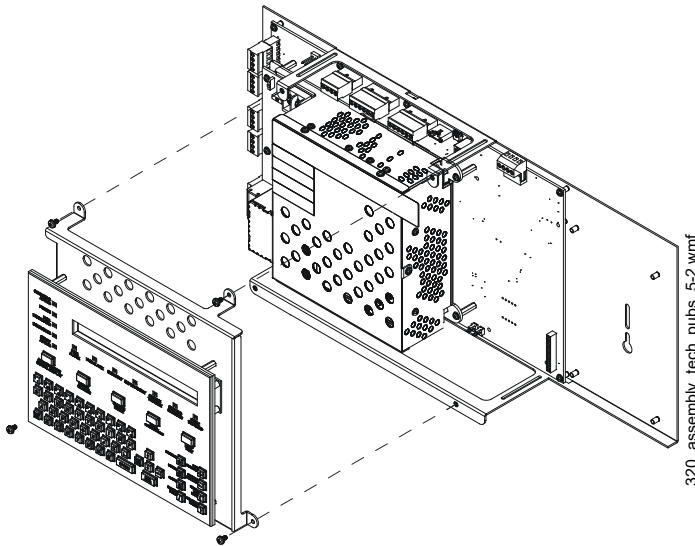

Figure 11 Removing and Reinstalling KDM-R2/C
1. Remove and re-install KDM-R2/C as shown in Figure 11. It may be convenient to do some basic field-wiring before reinstalling KDM-R2/C.